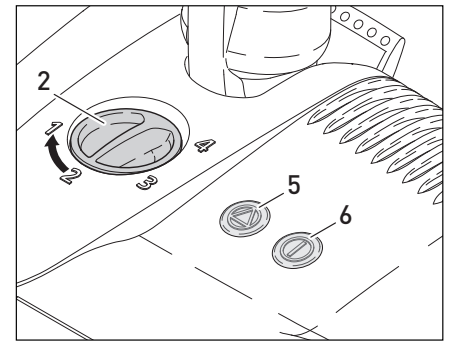

Figure 1
Operating the Power nozzle (Fig. 1 & 2)
B. To clean delicate or hard floor surfaces with straight suction only, the power nozzle is equipped with an on/off switch (#6, figure 1)*. When this switch is used to turn off the brush roller, the green light will change to yellow, indicating to the user that the brush roller is not turning. Pushing the button again will turn on the brush roller and the light will turn green.
The Brush Height Adjustment Feature (Fig.1)
Indicator Lights (Fig. 1, 2 & 3)
Green ON/OFF Light* (#6, figure 1): Brush is on and spinning.
Yellow ON/OFF Light* (#6, figure 1): The brush roller has been switched off and the vacuum is operating with straight suction only.
Red Brush Warning Light* (#5, figure 1): The brush is not fully engaged in the carpet. The height adjustment should be lowered. If the height adjustment is at its lowest setting, the brush is worn and needs to be replaced.
Red Brush Warning Light Flashing* (#5, figure 1): The brush is blocked. Turn off the power nozzle, disconnect it from the power source, and then remove the blockage (see page #)